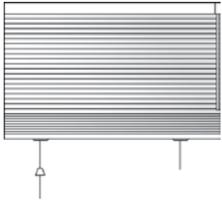
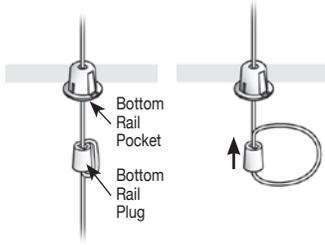

Figure 1
Figure 2
2. Position the headrail with the front lip resting on the top hooks of all the brackets (Fig. 1). Make sure that no fabric is pinched between the brackets and the headrail.
3. Push the bottom of the headrail firmly upwards and toward the window until the groove at the bottom of the headrail snaps into place, as shown (Fig. 2).
1. To lower the shade, pull down on the handle which is secured to the bottom rail (Fig.1).
2. To raise the shade, push the bottom rail up. The shade will hold at any position when the bottom rail is released (Fig. 2).
2. If adjustments are necessary, pull the excess cord at the bottom of the shade down until the Bottom Rail Plug is released (Fig. 1). Push the cord up through the Bottom Rail Plug (Fig. 2).